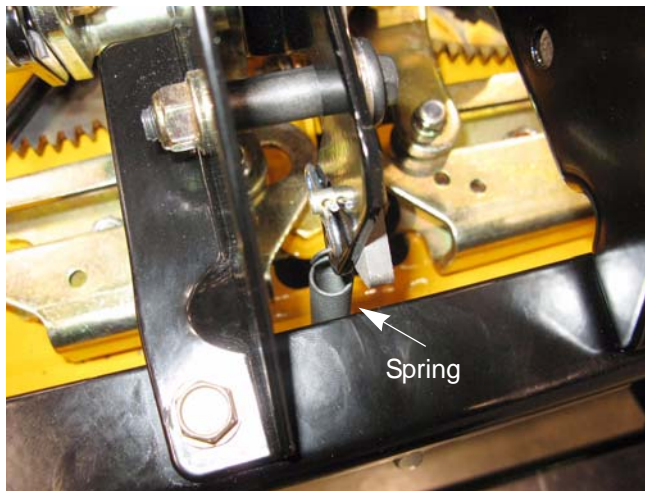

Figure 4.38
5. Disconnect the parking brake/cruise latch spring. See Figure 4.38.